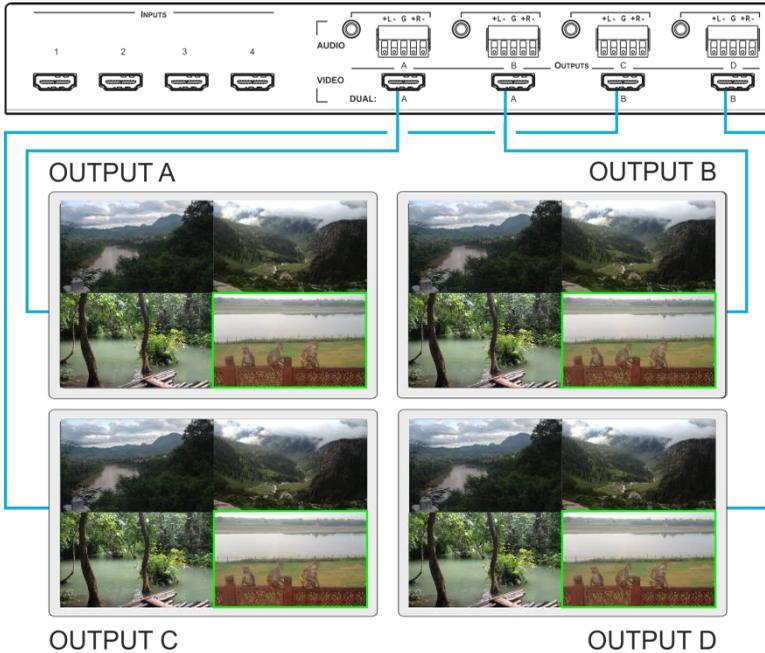

Figure 10: Connecting the VSM-4x4A in Quad Operation Mode
To connect the VSM-4x4A in Quad mode as illustrated in Figure 10:
1. Connect an HDMI source to up to four inputs, not shown in Figure 10.